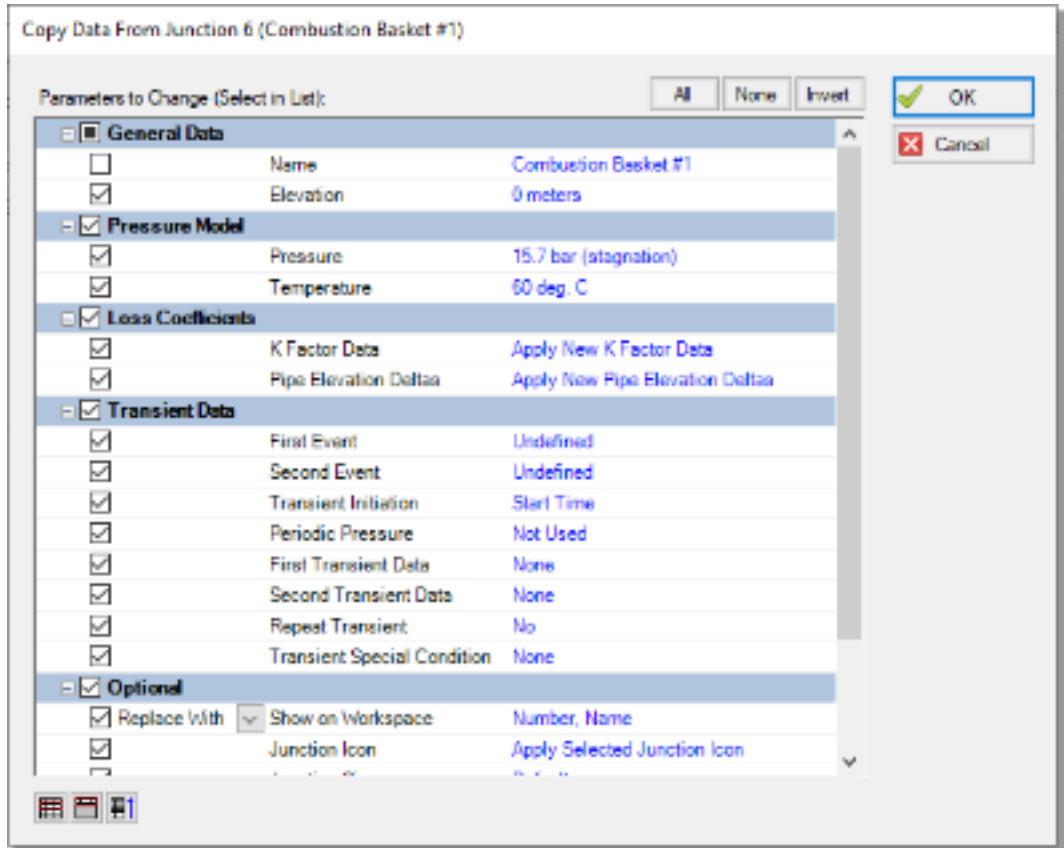

Figure 3.4 The Copy Data From Junction window
- **Un-check the Name parameter,** as shown in Figure 3.4.